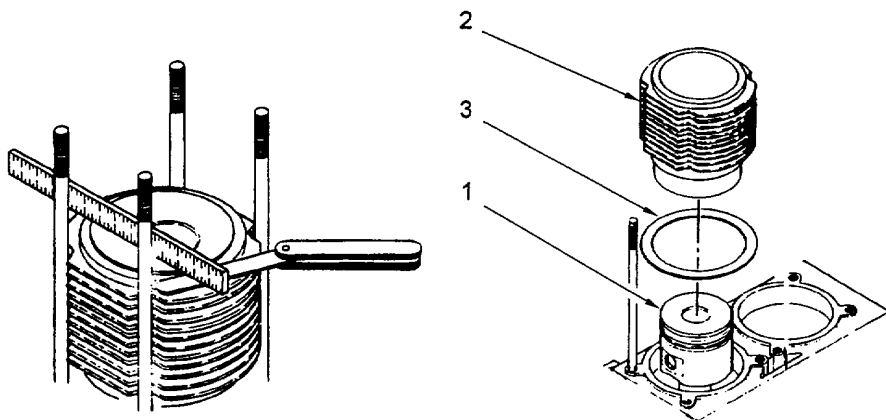

Figure 6-35. Piston Protrusion Check
- c. Install the ten socket head cap screws (7) attaching timing cover (2) to crankcase (4). Torque to 190 to 195 in. lbs. (21-23 Nm).
- d. Attach crankcase breather hose (8) to timing cover (2).
6.4.11 Check Piston Protrusion. (Refer to figure 6-35.)